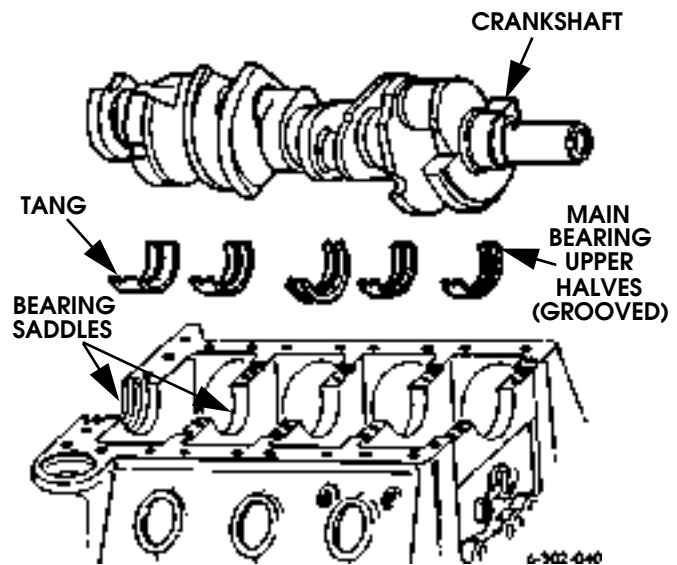

Figure 2-153: Installing Crankshaft and Main Bearing Upper Halves
3. Install main bearing upper halves in block (Figure 2-153). Install bearing halves dry. Do not lubricate bearing saddle in block or back of bearing. Be sure each bearing locating tab is properly seated in notch machined in block. Also be sure oil holes in bearing and block are aligned. Thrust bearing half goes in #3 main bearing saddle.